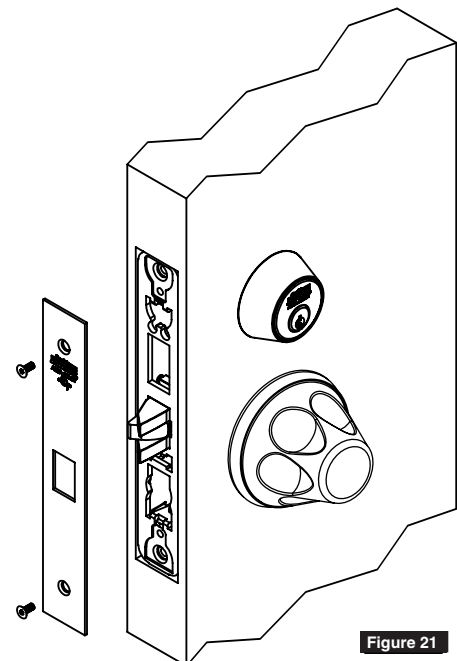

Figure 21
3. Install lock front using two front screws. (Figure 21)
6. Install lock front using two front screws. (Figure 21 on page 6)